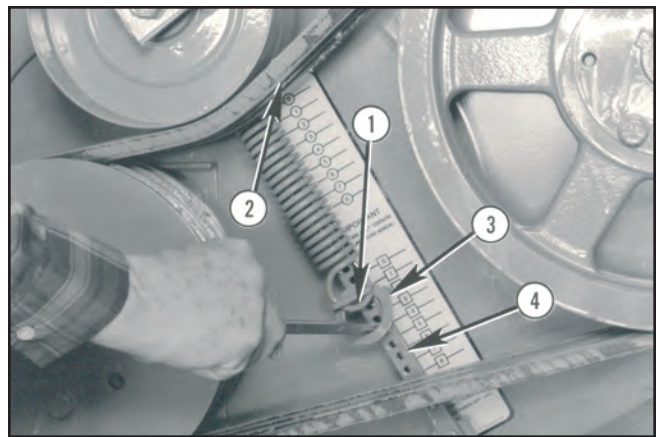

FIGURE 73
- Loosen outer bearing from its mounting as shown in Figure 73, page 31. Unless this bearing is also being serviced, it is not necessary to remove it from the rotor at this time.
- Remove 4 3/8" bolts (3) and center anti-wrap shields (4). This allows access, through the rotor's inner end notches to bearing's inner race Allen set screws. Detach shield (5) and lube tube (6) from bearing.